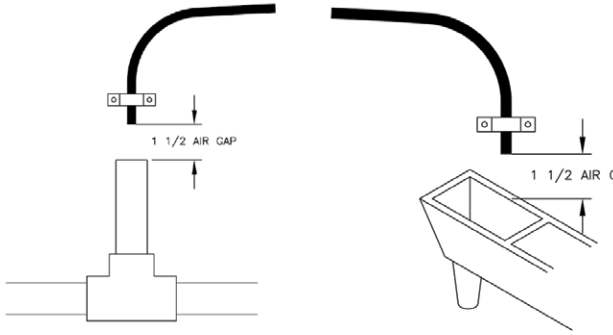

Figure 7: Also be sure drain line has an air gap.
2. If the drain line is a 5/8" outside diameter X 1/2" inside diameter flexible poly tube, slide the nut onto the poly tube, then place the poly tube insert into the end of the poly tube and tighten the nut on to the 3/4" drain line fitting. The nut is only designed for use with flexible poly tube. Use other nuts if attaching different materials. Run line to a drain. Making sure you have a 1 1/2" airgap. You may use a floor drain, standpipe or any open type drain (see Fig. 7 on page 10).